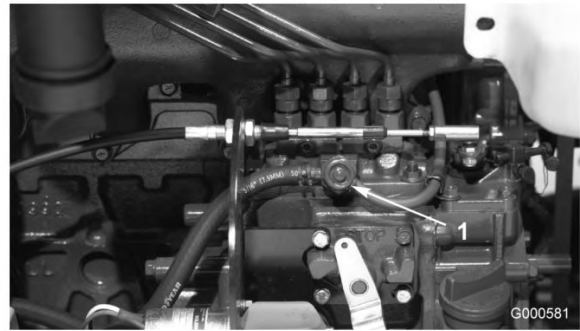

Figure 40
3. Open the air bleed screw on the fuel injection pump (Figure 40).